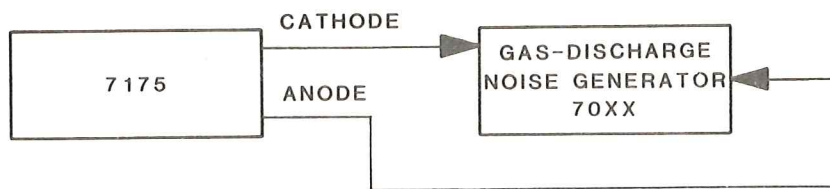

FIGURE 5-2. BLOCK DIAGRAM - LOCAL MODE OPERATION
- a. Connect equipment as shown in Figure 5-2.
5-14. Three power supplies, +15 V, -15 V, and +300 V, are contained in the 7175. Table 5-2 shows typical performance levels for these supplies (the following tests are made with equipment connected as shown in Figure 5-2).
5-17. With equipment connected as shown in Figure 5-2, and no power applied, remove anode cable from gas-discharge tube. Set front panel function switch to LOCAL-ON position. Apply AC power.